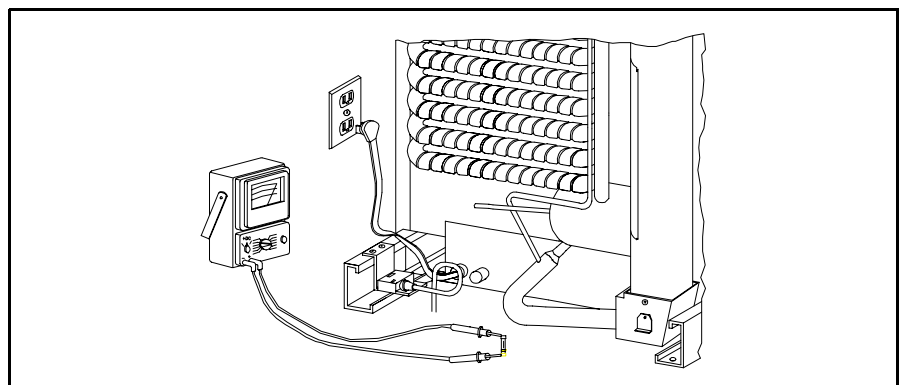

Figure 3.33 Checking F1 Fuse for Continuity
2. Once you have established a good AC supply voltage, then remove the 5 Amp fuse and check for continuity as shown in Figure 3.33. If reading is good, reinstall fuse and proceed to next step.